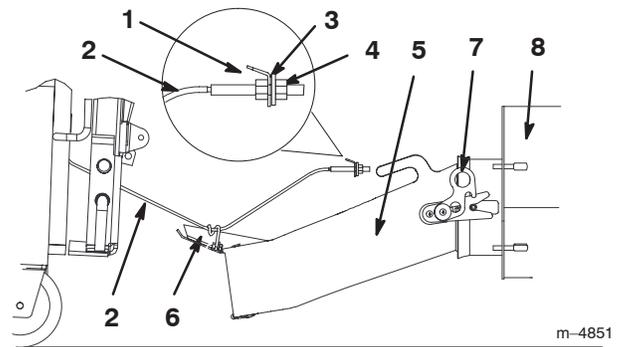

Figure 22
3. Raise seat, to gain access to plenum cable. Remove washer and nut from plenum cable end (Fig. 22).